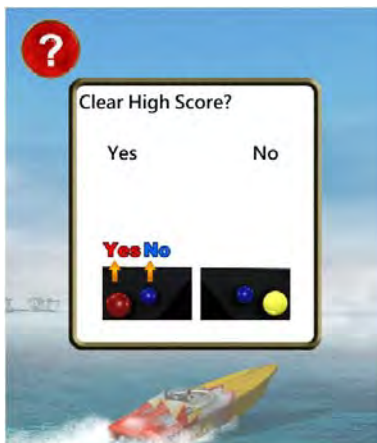

Figure 13 “Clear High Scores” Window
3. “*Clear High Scores*” deletes all high scores and returns to the default settings. (Figure 13)